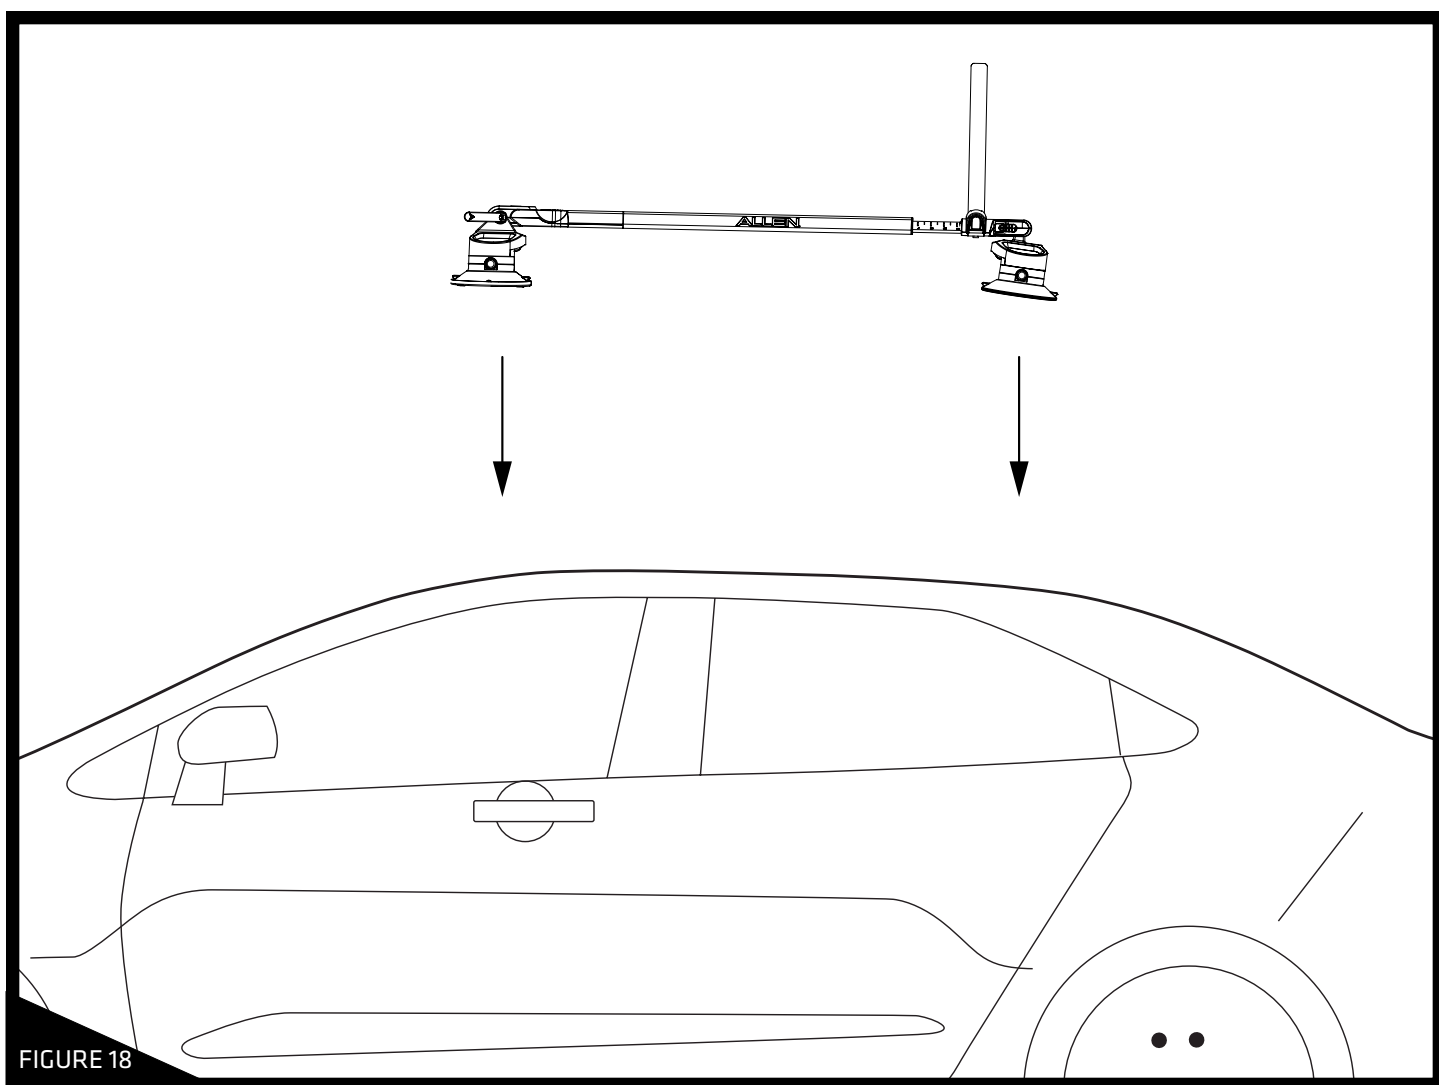

FIGURE 18
**STEP 3** Place the rack onto the vehicle facing forward in the desired location as shown in **Figure 18**. Confirm that the rack is still set to the length that suits the bike, or readjust the rack to the proper setting that was determined previously.